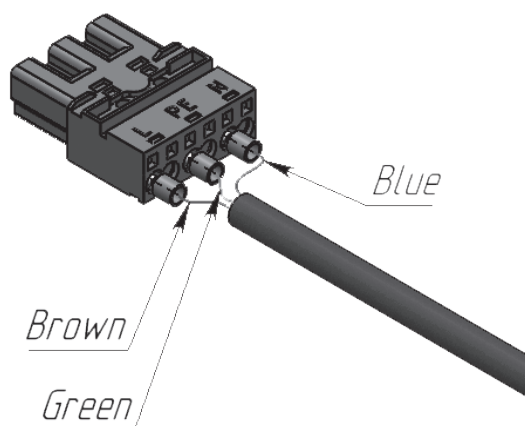

Fig. 38. Connecting the cables
- connect the cables according to the polarity of the connectors and tighten the contacts with screws (Fig. 38);